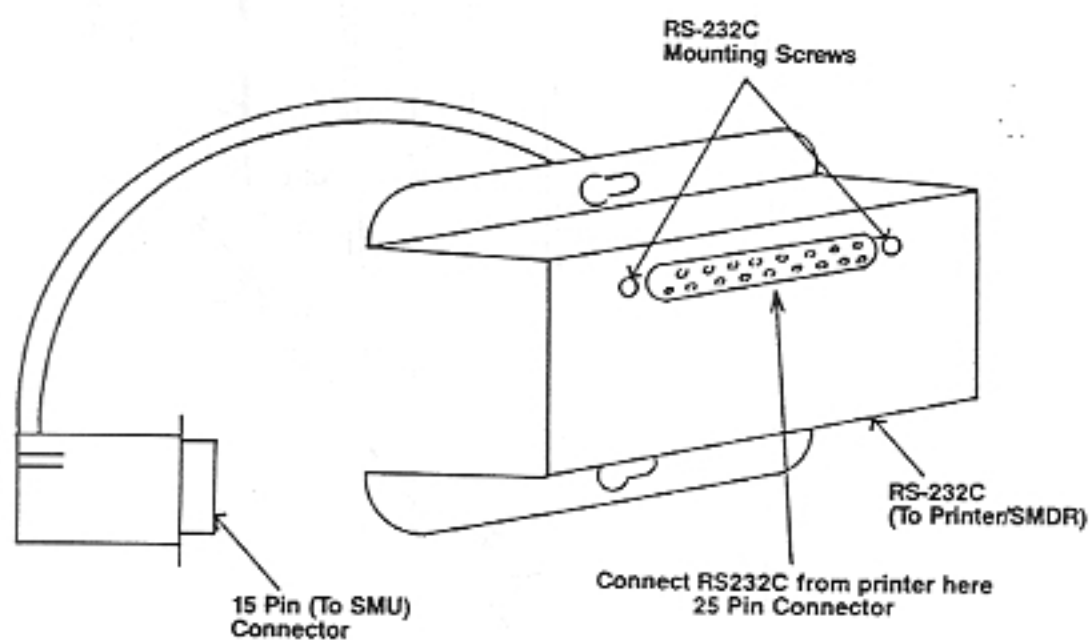

Figure 8-4 SMU Printer Interface
Interfacing to the printer is accomplished via an RS-232 cabling assembly supplied for connection to a 15 pin plug (also supplied) mounted on the SMU (refer to Figure 8-4).
7. Connect the printer to the SMU RS-232 interface assembly as shown in Figure 8-4. The printer must have a serial RS-232 interface and must be able to receive either 300 baud or 1200 baud data.